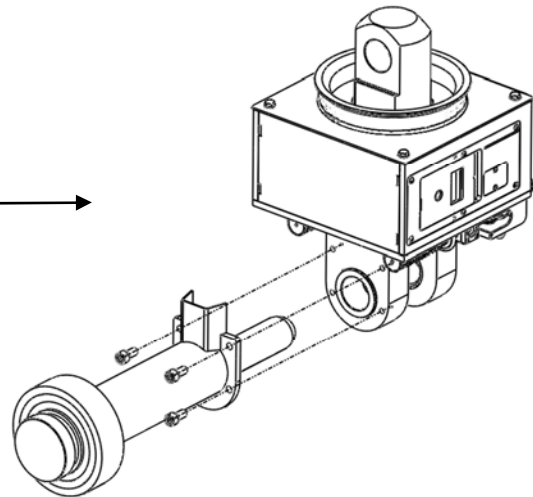
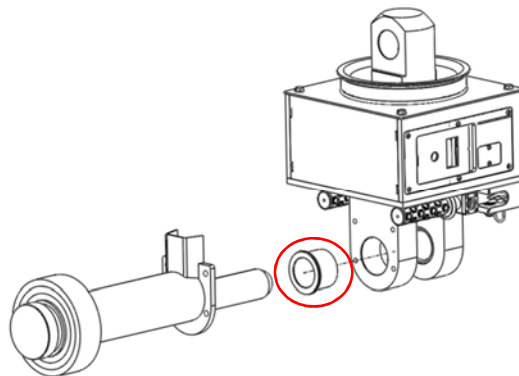

Figure 15 – Cylinder subassembly
Figure 16 – Rear bushing
3. To release the rear bushing, first remove the four screws which hold the pneumatic cylinder in place (*Figure 15*) and separate it from the NOA device to enable access to the pin and bushing (*Figure 16*).